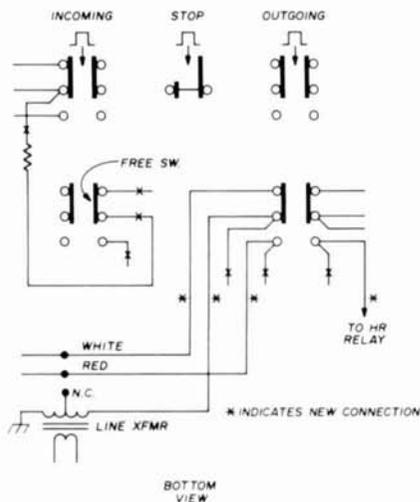

fig. 8. Incoming - outgoing switch modifications.
9. Clip the two wires (one from each lug) from the rear, inner spdt switch of the outgoing pushbutton and fold back the wires. See fig. 8.
10. To the center lug of these three, connect a wire to the last lug made available on the line transformer. No connection is made to the center tap on the line transformer. See fig. 8.